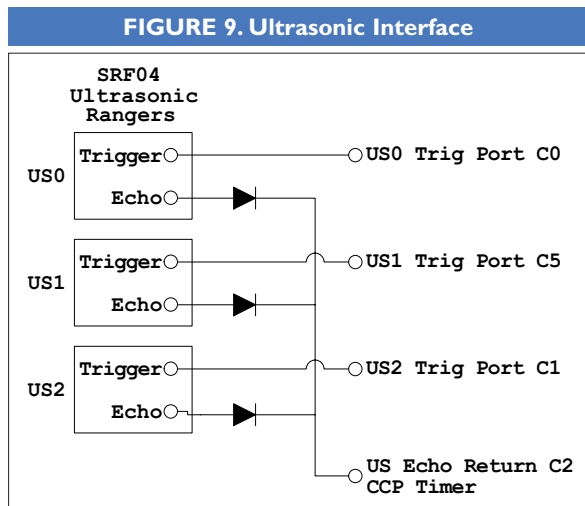

FIGURE 9. Ultrasonic Interface
■ Pin 29 (CCP1/C2) is the Ultrasonic Sensor return line for all three sensors. The sensor's outputs are "wired-OR'd" together with the three diodes shown (Figure 9). C2 is a special port, tied to one of the two CCP (Capture/